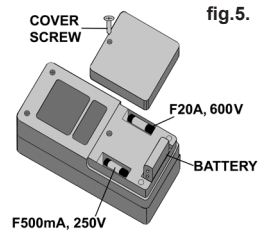

fig.5.
- 4.19.3. Open the battery door by loosening the screw using a Phillip's screwdriver (fig.5.).